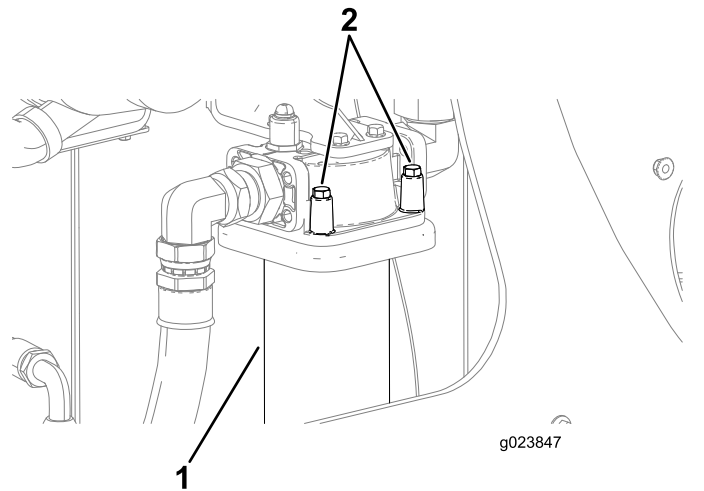

Figure 123
3. Align a drain pan or several rags under the charge filter (Figure 123).
4. With one hand under the hydraulic-return filter, remove the 4 bolts as shown in Figure 123.
7. Align the new hydraulic return filter to where it seats, and tighten the 4 bolts (Figure 123).